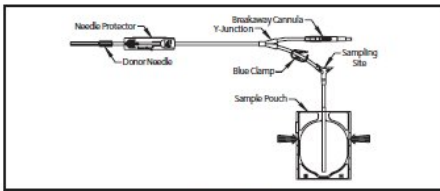

Figure 1
- **Do not use the product if the in-line cannula is broken and/or anticoagulant is present in the sample pouch or in the tubing from the in-line cannula to the sample pouch and donor needle (see Figure 1). Note that condensation in the empty tubing of the BLOOD-PACK unit is expected as a result of the sterilization process.**
- **If less blood sample volume is required, the flow to the sample pouch may be stopped prior to completely filling the pouch. For example, in order to target a fill volume of approximately 40 mL, fill to the level indicated by the arrows in Figure 1. Ensure the pouch is hanging vertically.**